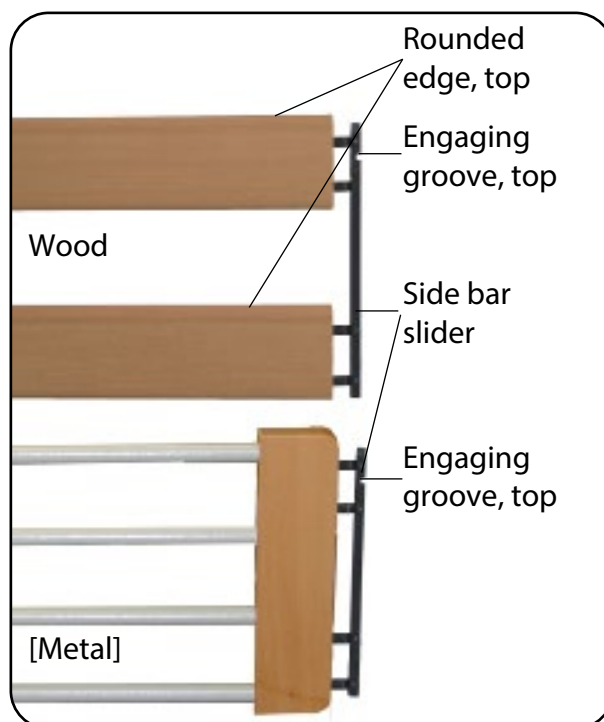

Fig. 6.4.01 – Side bars
2. To assemble the wood side bar slats, place two side bar slats flat and parallel on the floor (not applicable for metal side bars). Insert the side bar sliders into the drilled holes on both ends of the slats (Fig. 6.4.01).
**i** The wood side bars consist of two individual side bar slats with a cross section of 28 x 110 mm. The rounded edges are at the top. The specially designed plastic side bar sliders ensure the specified spacing is maintained (Fig. 6.4.01).